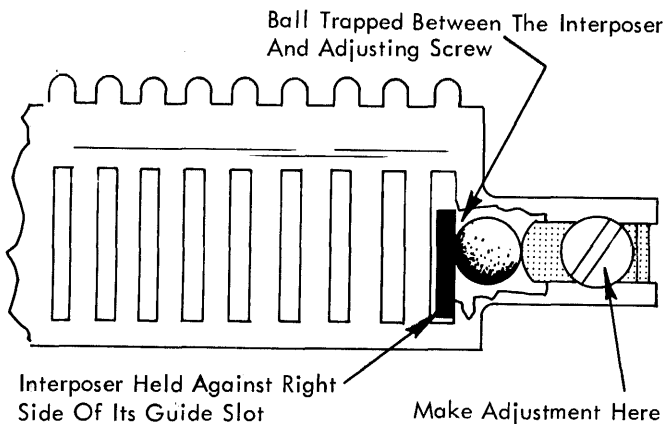

FIGURE 12. Compensator Adjustment, Early Style
- b. **Early Style** (Fig. 12) - With the extreme RH interposer latched down and held against the right side of its guide slot, adjust the adjusting screw (or slider) until the extreme RH ball is trapped between the interposer and the adjusting screw (or slider). Follow the same procedure for the left side.